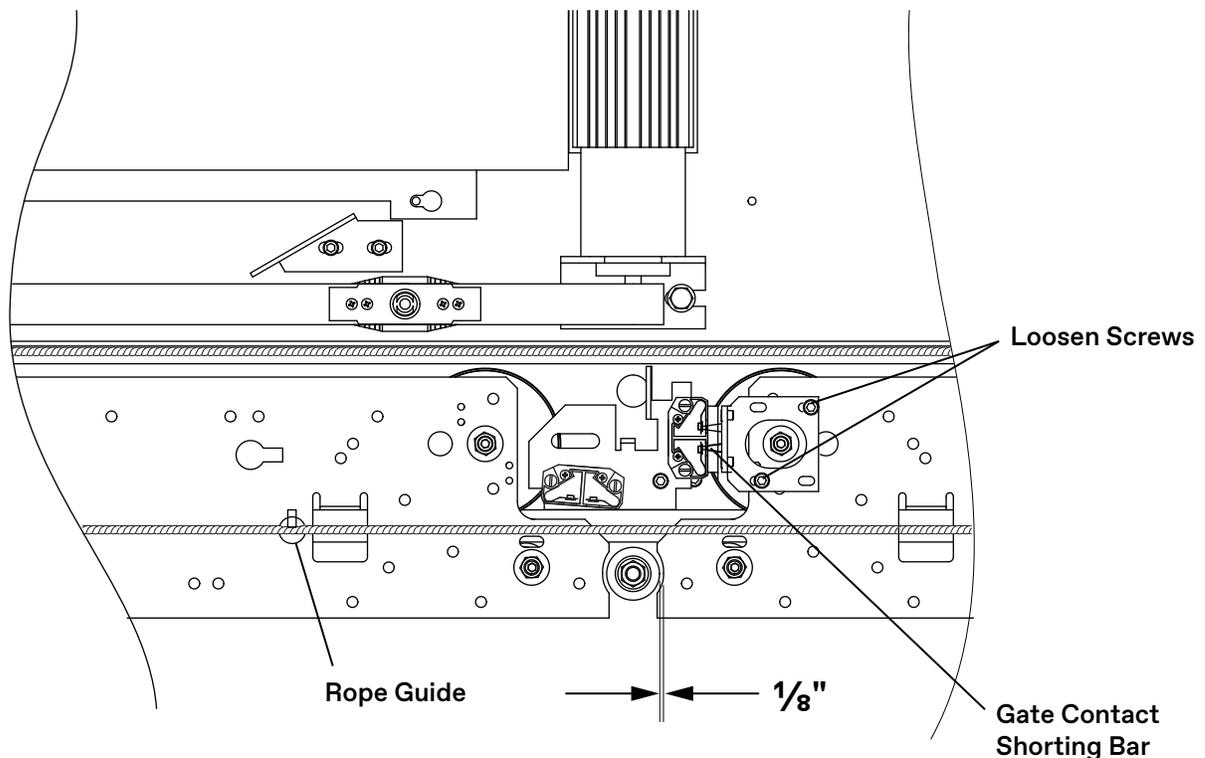

Figure 17 - Adjust Door Contacts/Door Lock Contact (Center-Opening Shown)
2. When the door lock pins are just touching the door contacts, verify that the measurement between the door hanger and the bumper is $\frac{1}{8}$ ". See Figure 17.